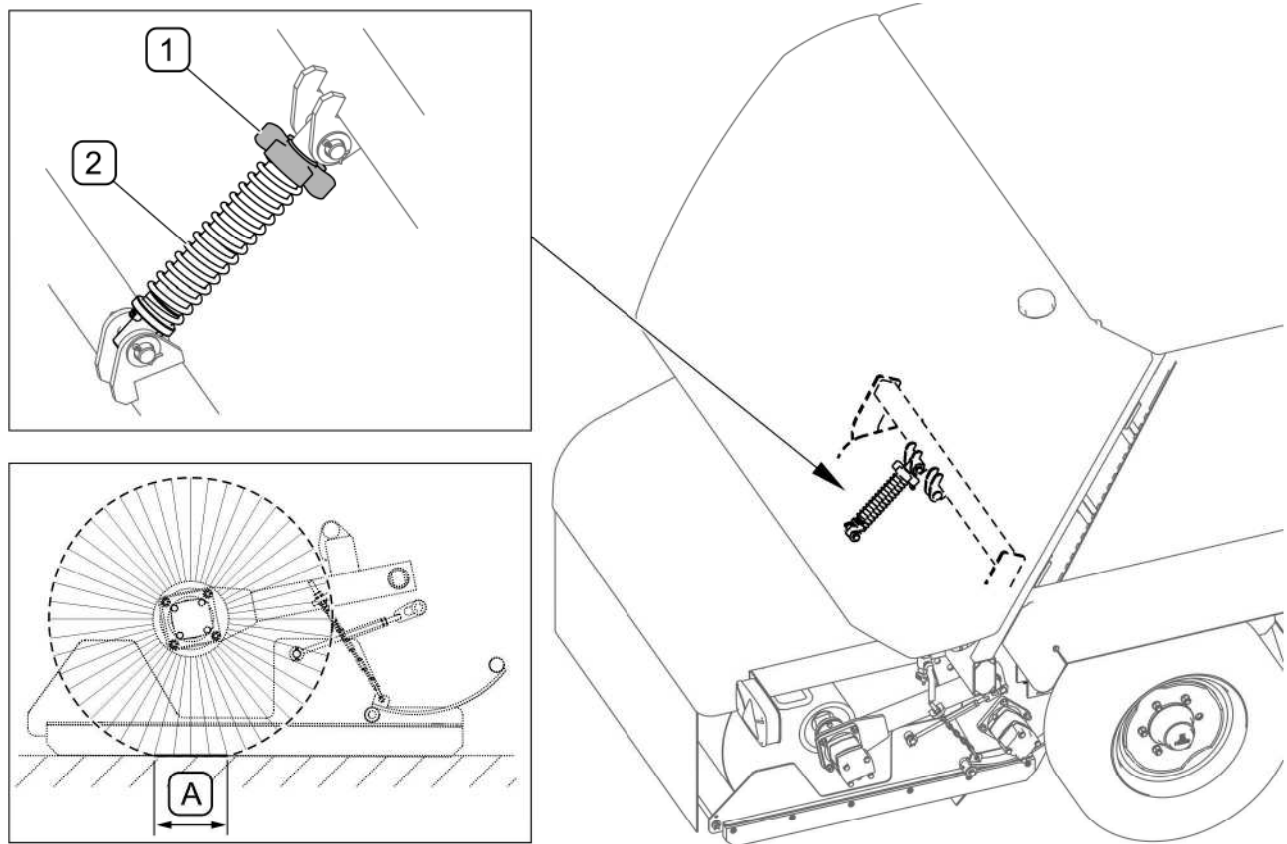

FIG. 5.7 Adjustment of roller brush pressure
(1) - tensioning nut; (2) - spring; (A) - surface of roller brush pressure to the ground 100 – 150 mm
Surface of roller brush pressure (A) to the ground should be within 100 - 150 mm (FIG. 5.7). Setting the roller brush pressure involves the adjustment of spring (2) tension and is carried out by means of nut (1). Excessive pressure of brush on the surface increases wear of brush.